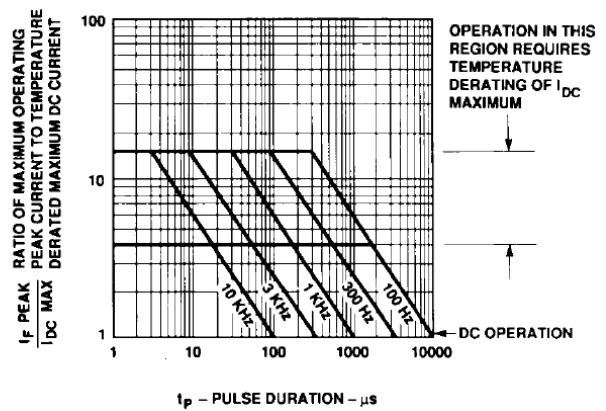

Figure 2. Maximum Tolerable Peak Current vs. Pulse Duration – AlGaAs Red.
1. See Figure 2 to establish pulsed conditions.